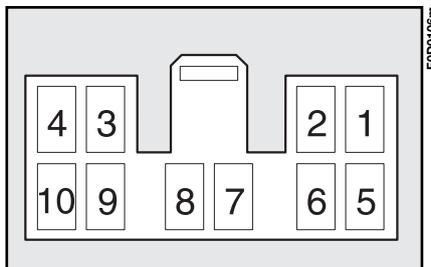

fig. 149
- dual-purpose aerial connection wires and ten-pin connector wiring **fig. 149**;